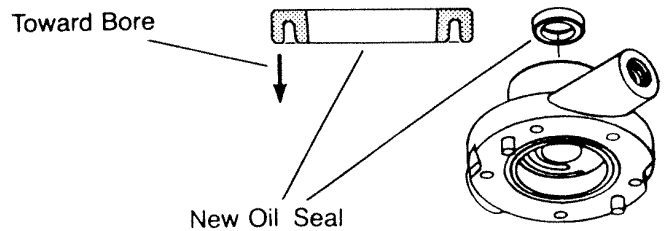

Fig. 43
**84** Lubricate inner surface of new oil seal and install in charge pump housing as shown in Figure 43 with the rubber lip toward the bore. Make sure seal is completely seated.